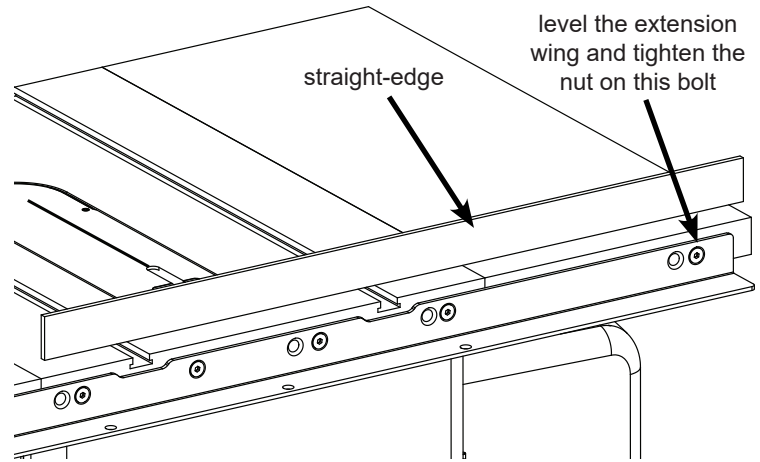

Fig. 8
8. Use a straight-edge to level the rear edge of the left extension wing to the cast iron table top (see Fig. 8). You may have to pull up or push down on the outer edge of the extension wing to level it. Once the rear edge of the left extension wing is level, use a 5 mm hex wrench and a 13 mm wrench to fully tighten the nut on the bolt that mounts the left extension wing to the rear rail. Repeat this process to level the rear edge of the right extension wing.